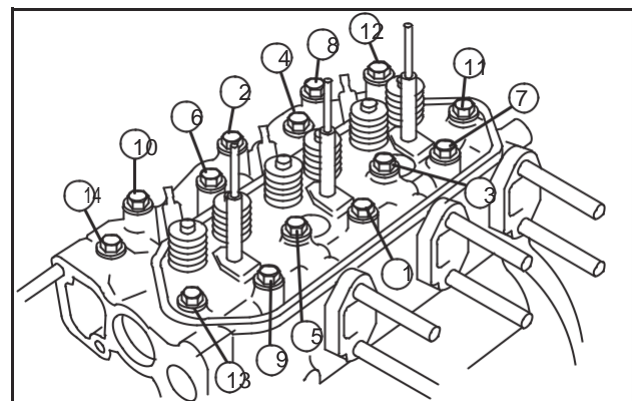

Fig. 33 – Install Cylinder Head Assembly
2. Install cylinder head assembly, Fig. 33. Lubricate threads of cylinder head bolts with engine oil. Torque head bolts in 14.0 Nm (10 ft. lbs.) increments in sequence shown.